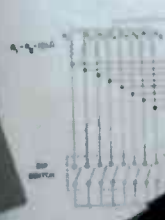
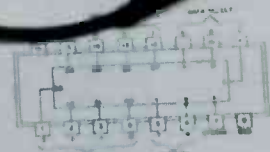

Fig. 16 Circuit for Experiment 2
Fig. 17 Pin diagram for 74151A
Figure 16 shows the circuit diagram for this experiment. You'll need the following components for the IC aren't included in the diagram. You'll need a breadboard for the IC, an 8-pin DIP switch, a 10k resistor, and a 100k resistor. Figure 17, which shows pin 1 of the IC, is in conjunction with the IC. You'll use an eight-pole DIP switch in conjunction with the IC. You'll use the Select and Strobe lines. Finally, you'll use the IC's output lines.
2. Connect the eight 10k resistors to the DIP switch as shown in Figure 17. Connect the opposite end of each of these resistors to the common terminal of each switch. The second terminal of each switch is connected to ground.
4. Next, connect the trainer data switches to the Select lines on the IC, using Figure 17 as a guide. Initially, set SW1 to 0.